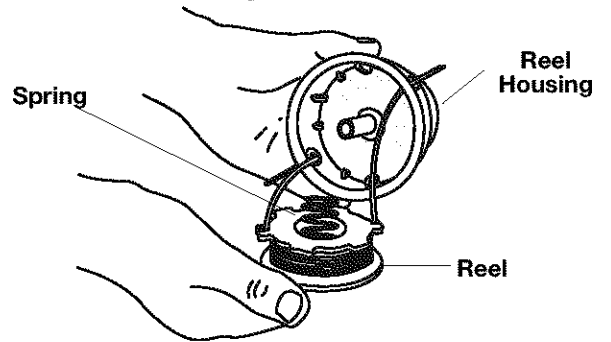

Fig. 26
1. Insert one line end through each of the eyelets in the reel housing, and insert the reel and spring back into the reel housing (Fig. 26).